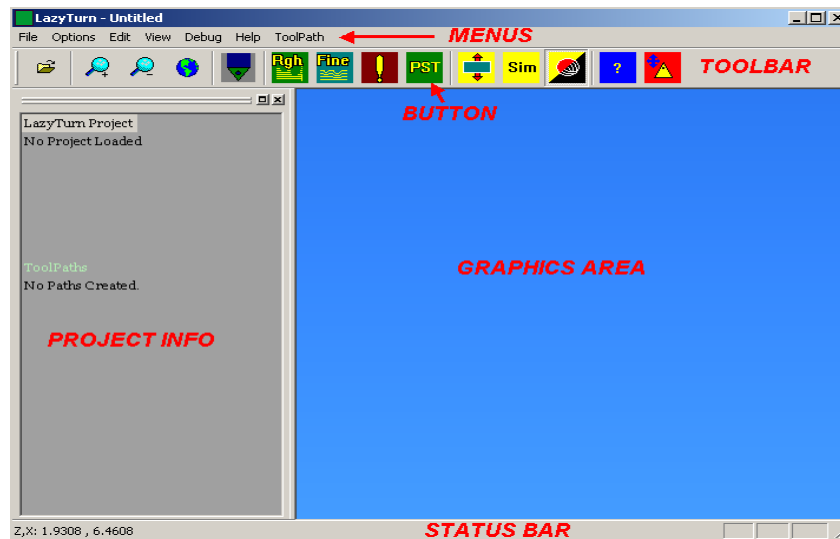
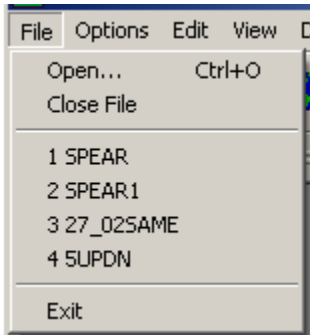

FIGURE 5.1
FIGURE 5.2
5.1.1. Figure 5.1 above is the main screen which you will see when LazyTurn is opened. The screen provides different pull down menus as shown in Figure 5.2 below and behaves just like any other screen in a Windows environment.